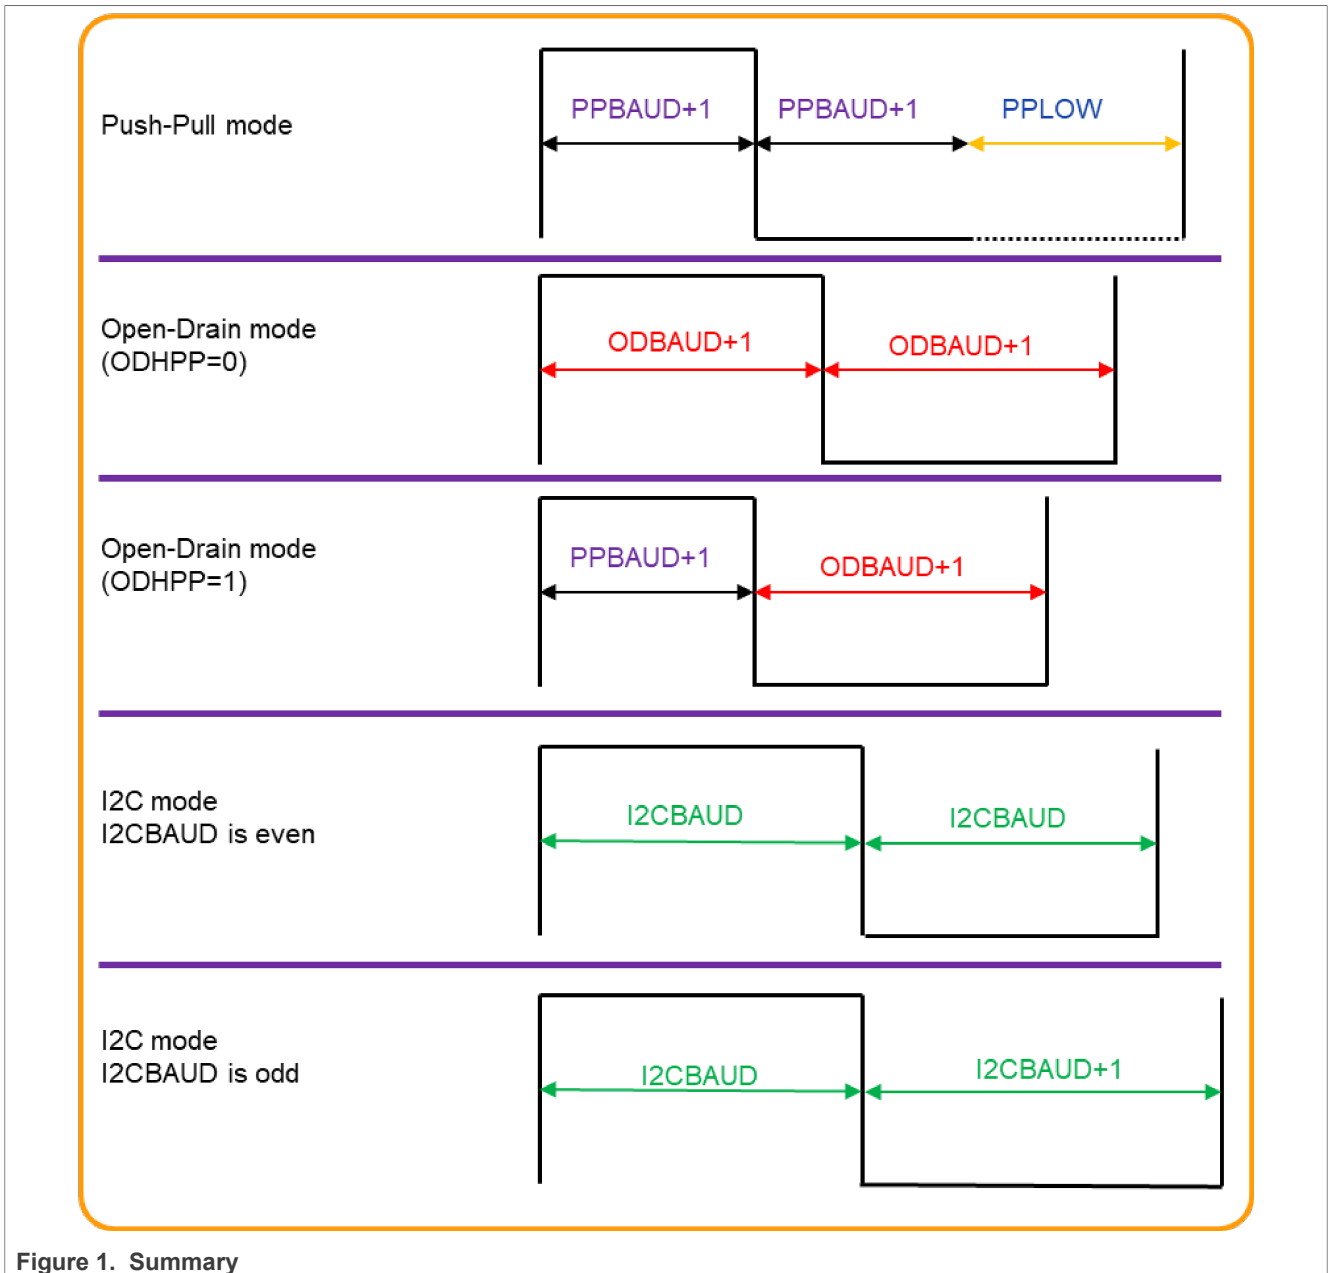

Figure 1. Summary
- The relationship and calculation if the I3C baudrate is shown in Figure 1.